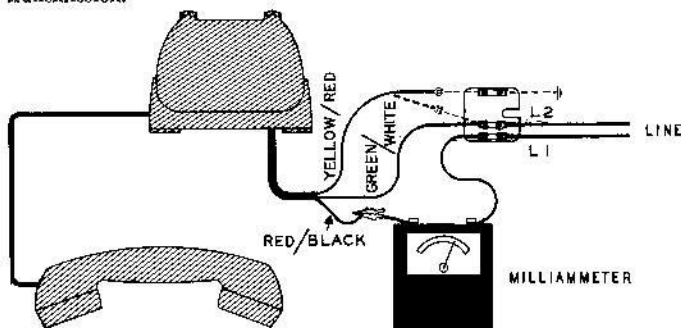

Figure 16.
12.2 **Without assistance from the central office.** Loosen the connecting-block cover-screw, remove the connecting-block cover, and disconnect the telephone red/black lead. Per figure 16, connect a milliammeter between the telephone red/black lead and connecting-block terminal L1 so that the milliammeter is in series with the line. Take handset off cradle, and vary the loop compensation until the milliammeter reads 60 milliamperes.